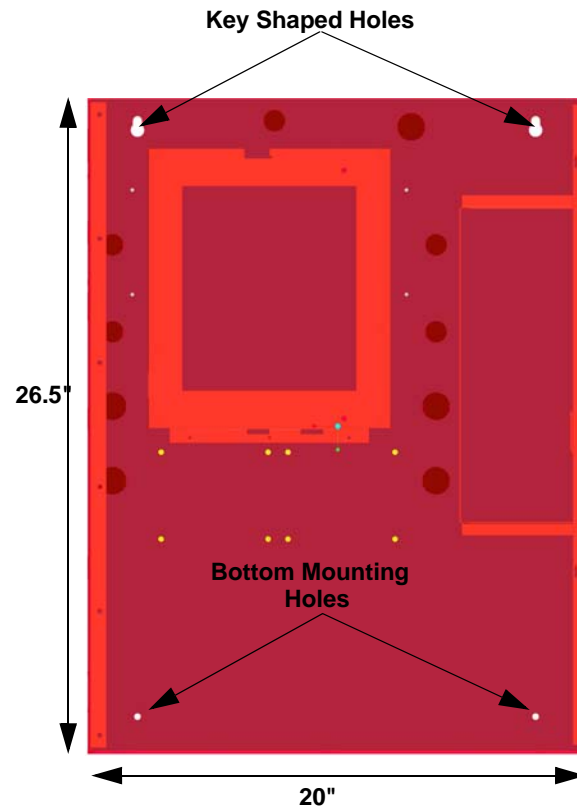

Figure 3.2 5820XL-EVS Cabinet Mounting Holes
3. Mark and predrill holes in the wall for the center top keyhole mounting bolts using the dimensions in Figure 3.2.